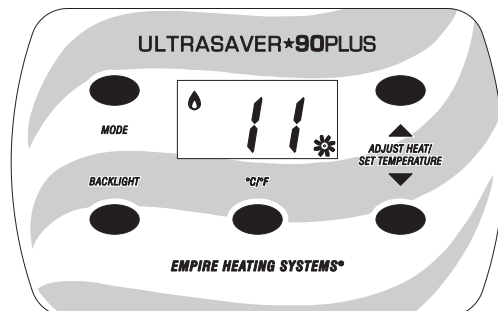

Figure 16 - Heat Levels 1 and 2, Blower Speed 1
7. The blower will activate after 45 to 70 seconds depending on heat level. The blower will automatically adjust its speed to match the heat level. The blower speed will be indicated on the display panel. **See Figures 16 to 19.**
The circulating air blower is operated by a built in timer. The blower will activate after approximately 45 to 70 seconds depending on heat level. The blower will automatically adjust its speed to match the heat level. The blower icon and speed are indicated on the display panel. **See Figures 16 to 19.**